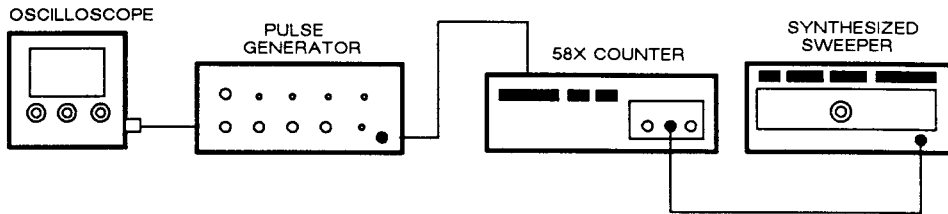

Figure 5-4. Band 1 and 2 Gate Error Calibration
1. Set up equipment as shown in Figure 5-4.
1. Set up equipment as shown in Figure 5-4, and adjust as specified in step 3, Band 2 Calibration.